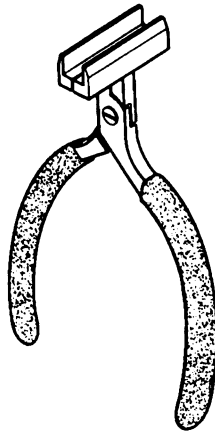

Figure 3-4 – IC Insertion-Extraction Pliers
- Step 1: Use Insertion-Extraction Pliers (such as General Tool's Part Number U505BG, a 28-pin type) to remove the IC. An illustration of the pliers is shown in Figure 3-4.